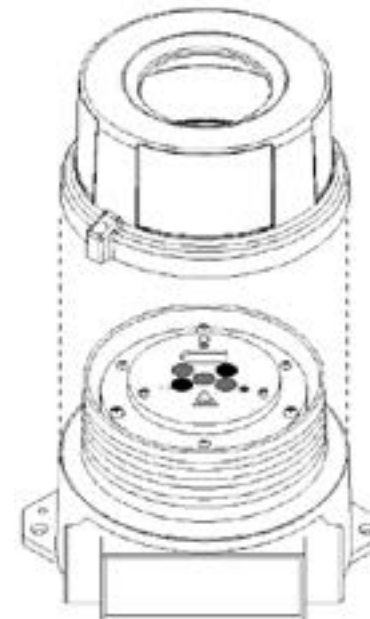

Figure 12. Removing the enclosure lid
- 2. Unscrew and remove the enclosure lid (Figure 12).